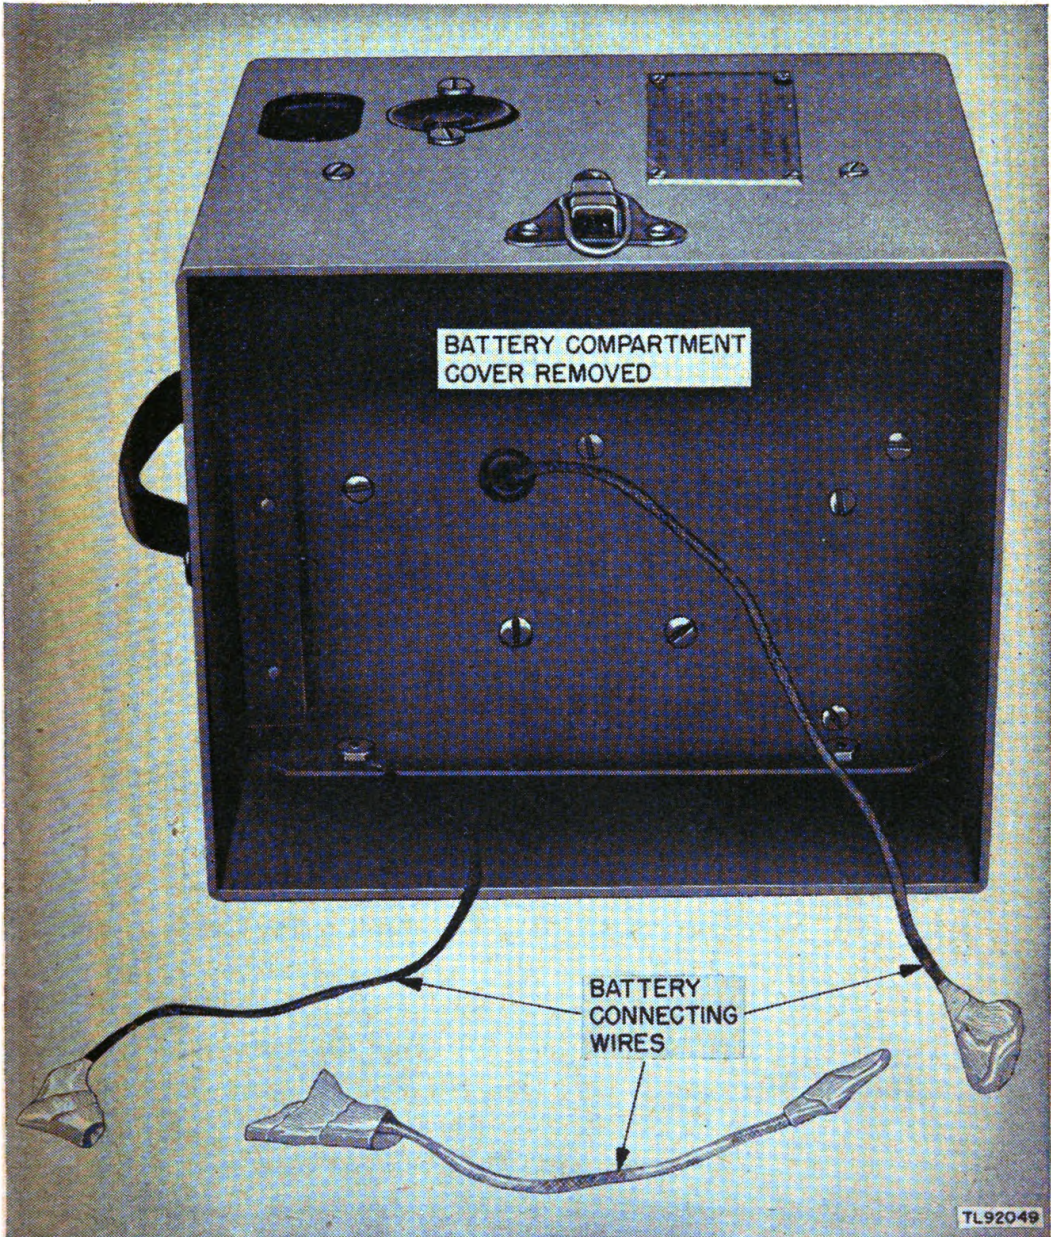

FIGURE 13.—Converter M-222—battery compartment, battery connecting wires masked.
c. Step-by-step instructions for treating converter M-222 (figs. 13 and 14).—(1) Preparation.—Make all repairs and adjustments necessary for the proper operation of the equipment.
(3) *Masking.*—(a) Mask bare ends of battery connecting wires (fig. 13).
(a) Battery compartment (fig. 13).
(b) Battery connecting wires (fig. 13).